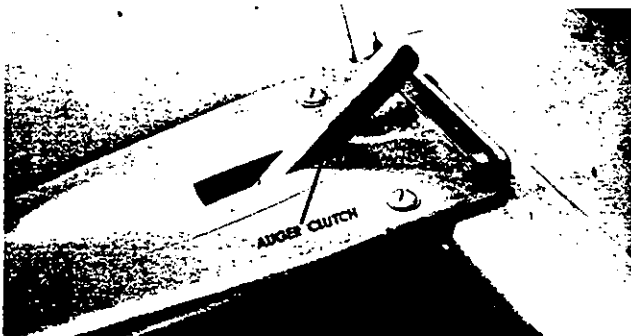

FIGURE 2.
Auger Clutch is located on the Left Hand side of the frame just behind the thrower housing. (Shown in the disengaged position.) When the handle is up, the auger is disengaged. **WARNING:** Engaging auger clutch with main clutch already engaged will damage pins on sprocket hub assembly. Damaged pins cause hard engagement and clutch malfunction. Do not engage or disengage the auger clutch without first disengaging the main clutch. Disengaging the auger clutch allows you to drive the snow thrower to and from the work area without the auger turning. (See figure 2.)
1. With the main clutch disengaged and with the engine running at near top speed, engage the auger clutch. (See figure 2.)